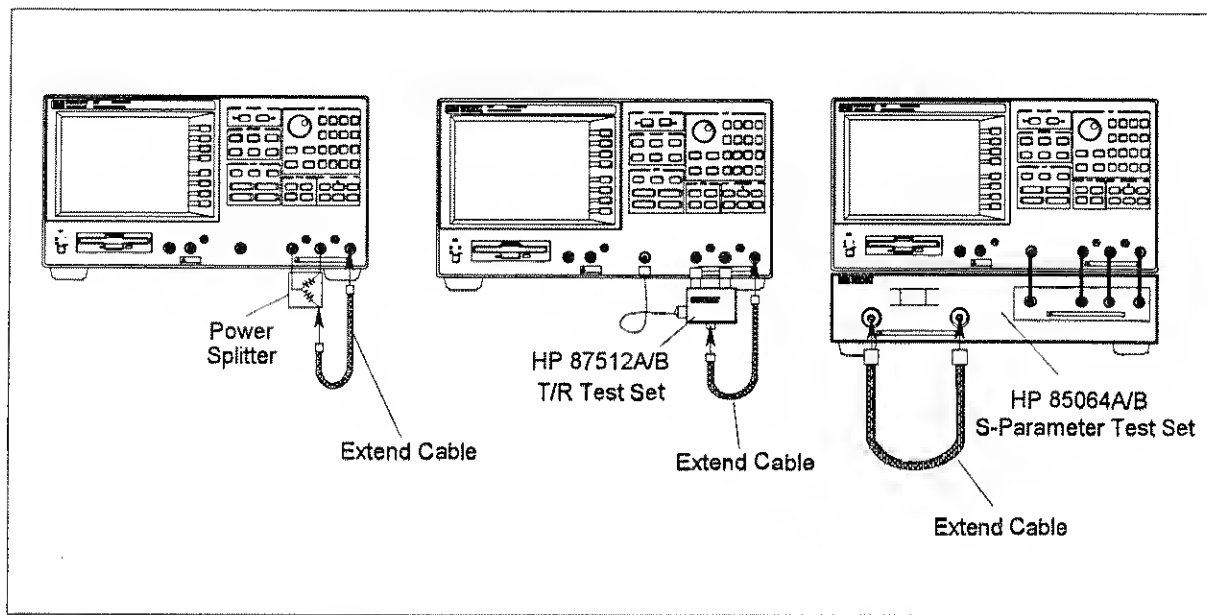

Figure 5-7. Cable Measurement Configuration
1. Connect the cable as shown in Figure 5-7.